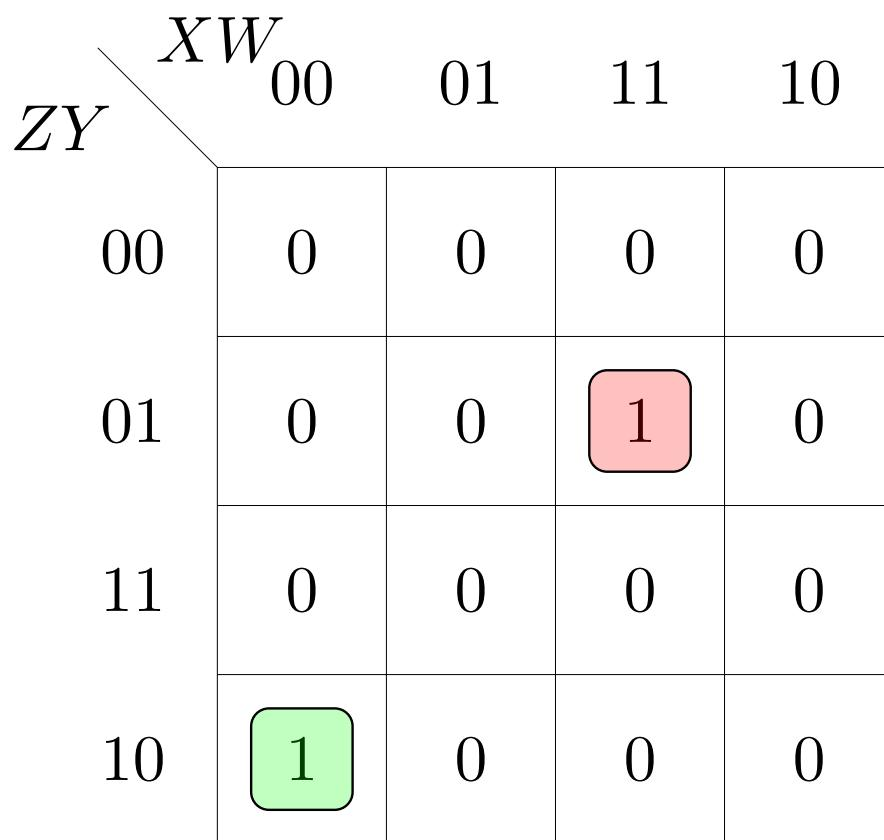

Figure 4.4: K-map for  $D$
7. Minimize (4.8) using Fig 4.4